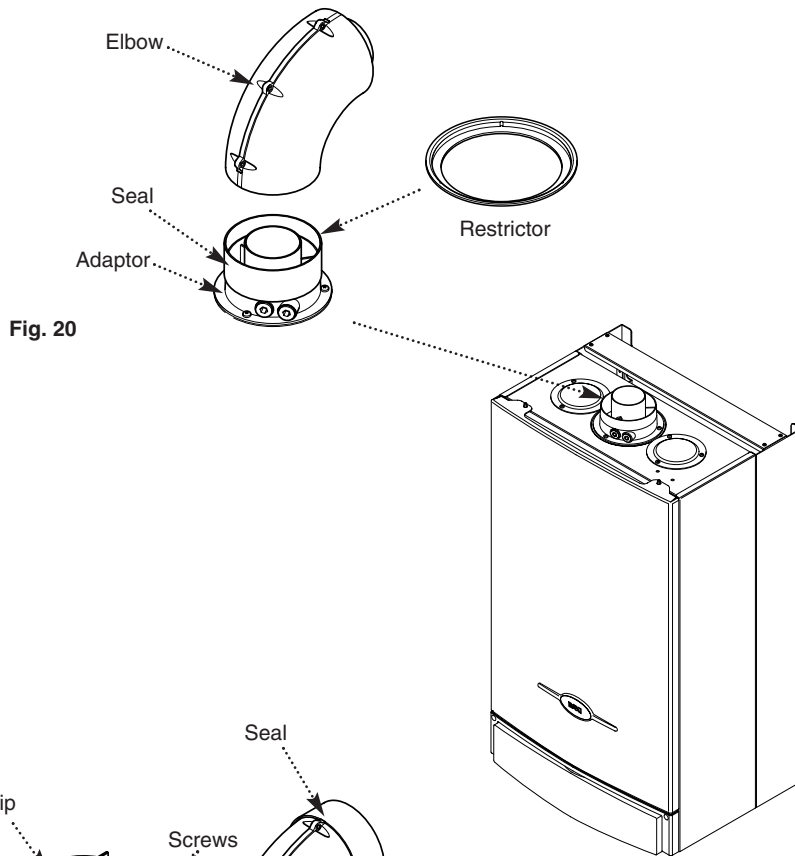

Fig. 20
**IMPORTANT:** If the equivalent flue length is greater than 1.5m the restrictor **MUST** be removed from the adaptor (Fig. 20).
8. Take one of the rubber seals and position it on the boiler flue adaptor. Engage the flue elbow on the adaptor and pull the sleeve up so that it equally covers the joint (Fig. 20).